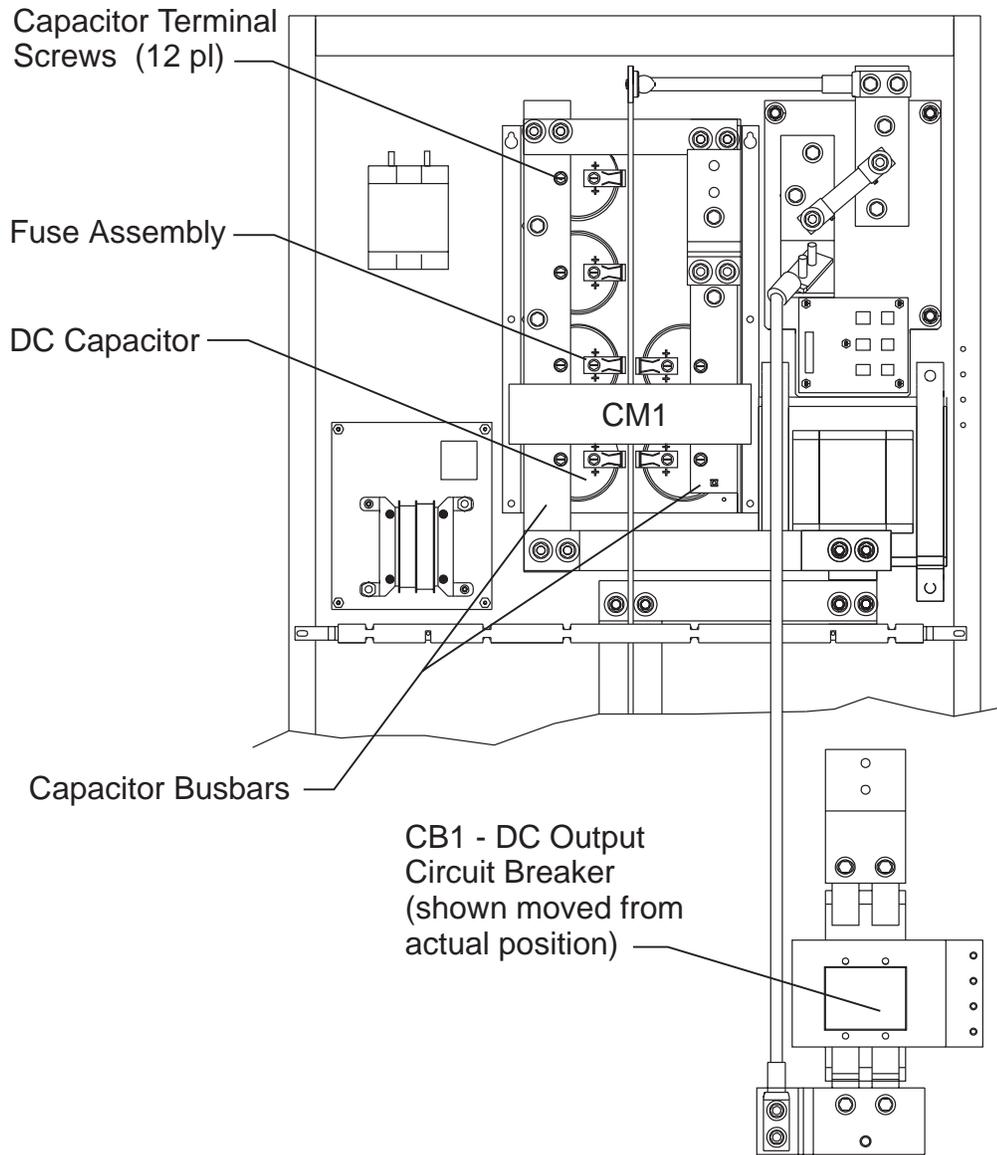

Figure 8-1: DC Distribution Showing Capacitor Bus Bars
1. DC capacitors C7, C9, C11, and C12 are mounted in a column on the left, and C8 and C10 are mounted in a column on the right as shown in Figure 8-1. The capacitors are located behind the capacitor bus bars. The bus bars are mounted directly to the capacitors by the capacitors' terminal screws. In order to remove a capacitor from either column, remove fuse board CM1 as described earlier in this section under "CM1 Fuse Board, CM5 or CM6 Snubber Board", all of the capacitors' terminal screws, mounting screws, and the screw supporting the fuse assembly. Note that this will completely free the capacitor bus bar in question.